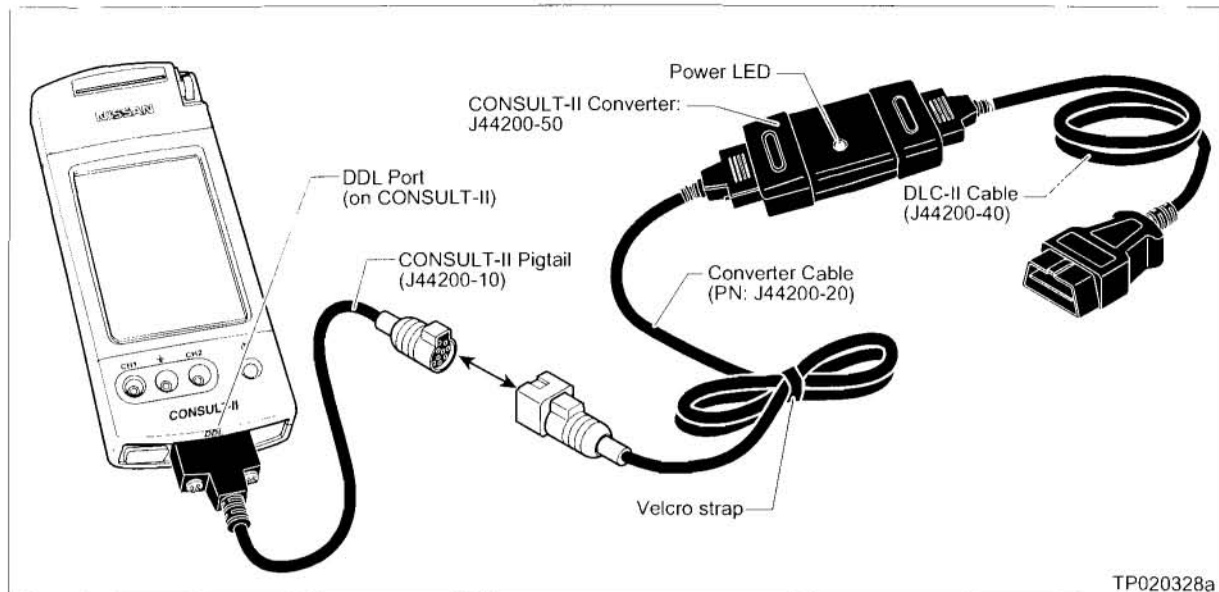

Figure A11
14. Connect CONSULT-II to the vehicle using the DLC-II cable with black Converter Box (see Figure A11 on the next page).
- Make sure all other DLC-II cable connections shown in Figure A11 are connected properly.
- Nissan requires the use of essential tools shown in Figure A11 when performing ECM reprogramming.